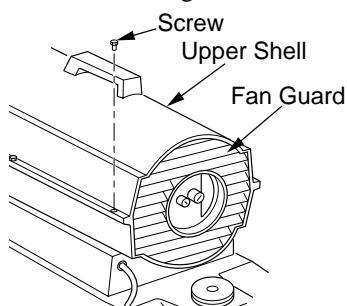

Figure 7 - Upper Shell Removal (40/55T/70T Models Only)
1. Remove screws along each side of heater using 5/16" nut-driver. These screws attach upper and lower shells together. See Figure 7 or 8.
1. Remove upper shell (see Figure 7 or 8).